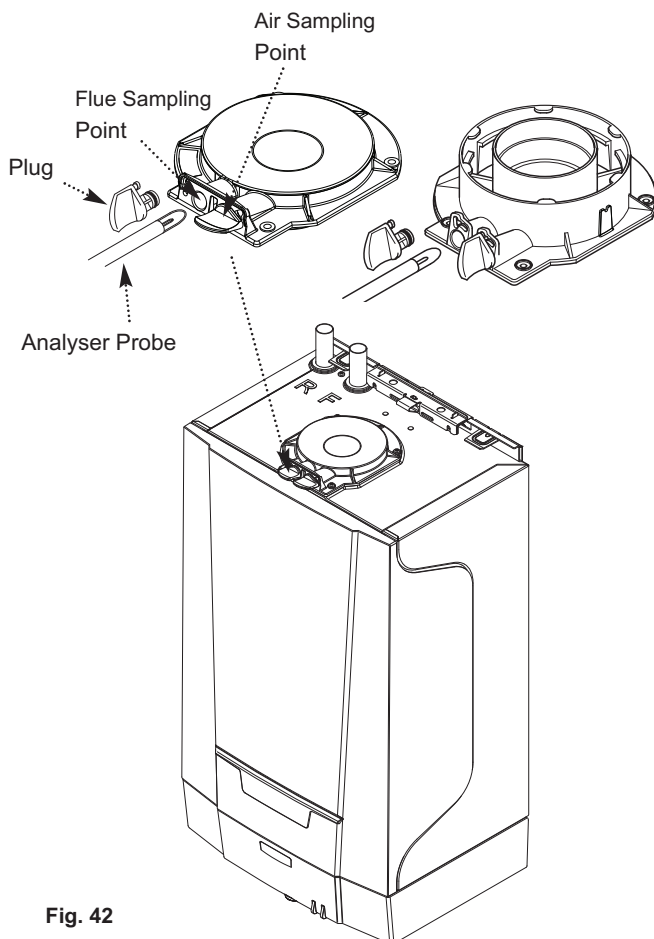

Fig. 42
5. Remove the plug from the flue sampling point (Fig. 42), insert the analyser probe and obtain the CO/CO_2 ratio. **This must be less than 0.004.** If the combustion reading (CO/CO_2 ratio) is greater than this, and the integrity of the complete flue system and combustion circuit seals has been verified, and the inlet gas pressure and gas rate are satisfactory either:-